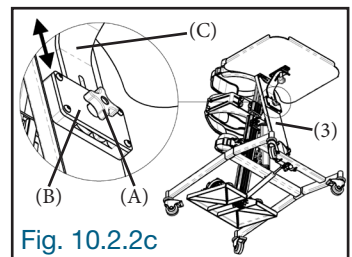

Fig. 10.2.2c
Slightly loosen the locking knob (A) on the slider (B) of the stabilizer (3) and slide the table support (C) up or down in the stabilizer slider. At the desired height, tighten the locking knob (A) on the slider firmly to secure the table in place (Fig. 10.2.2c).